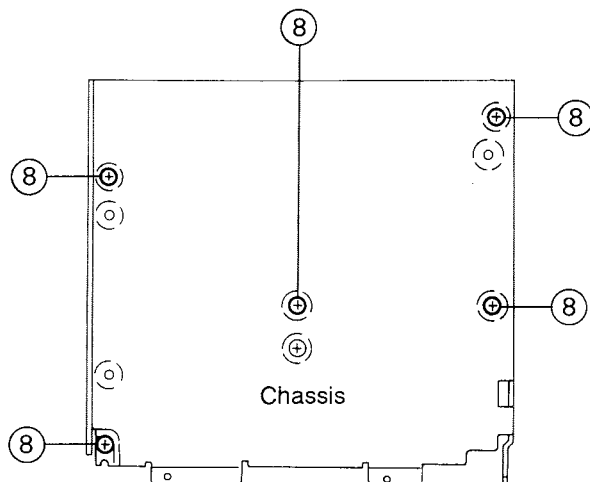

Fig. 4-8
(See Figs. 4-8 and 4-9)
1. After turning over the body upside down, remove the five screws (8) retaining the chassis (See Fig. 4-8).